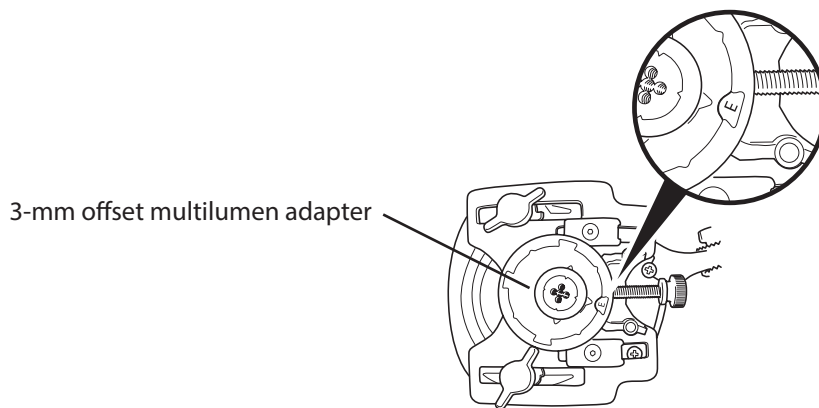

Figure 20. Insert the 3-mm offset multilumen adapter in the identical location as the 3-mm offset alignment adapter.
7. Insert the 3-mm offset multilumen adapter (MLA) in the identical location as the 3-mm offset alignment adapter aligning window in 3mm offset MLA with letter noted in step 2 (Figure 20).